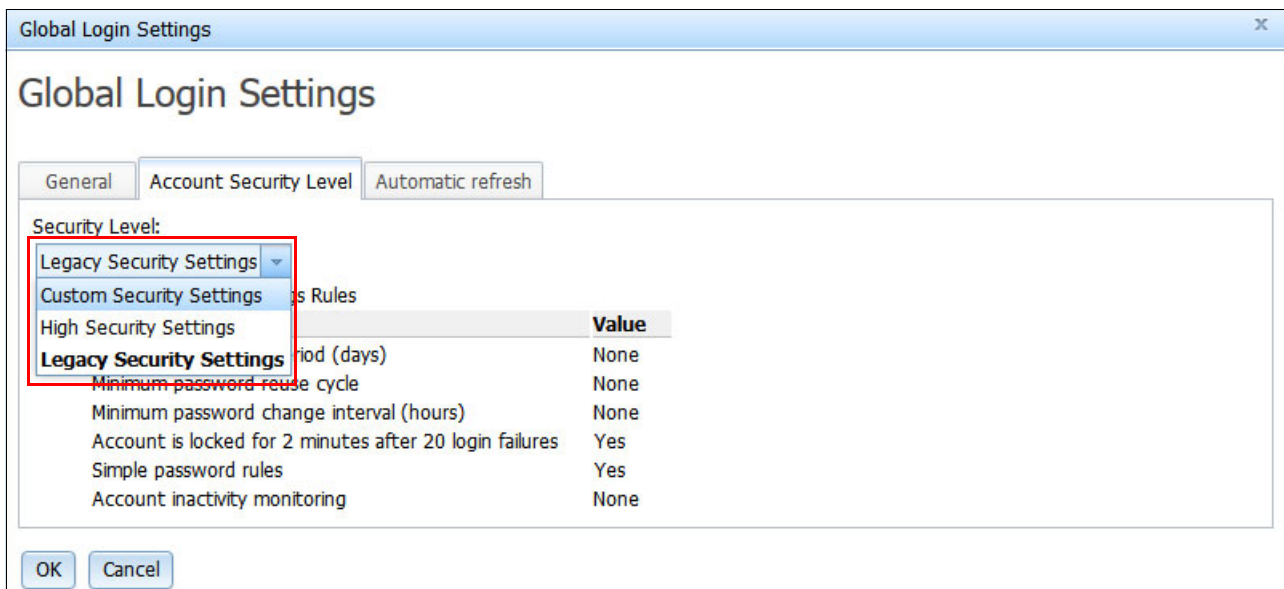

Figure 4-34 Global Login Settings: Security Settings
- Select **Custom Security Settings, High Security Settings, or Legacy Security Settings** from the menu and click **OK**, as shown in Figure 4-34.